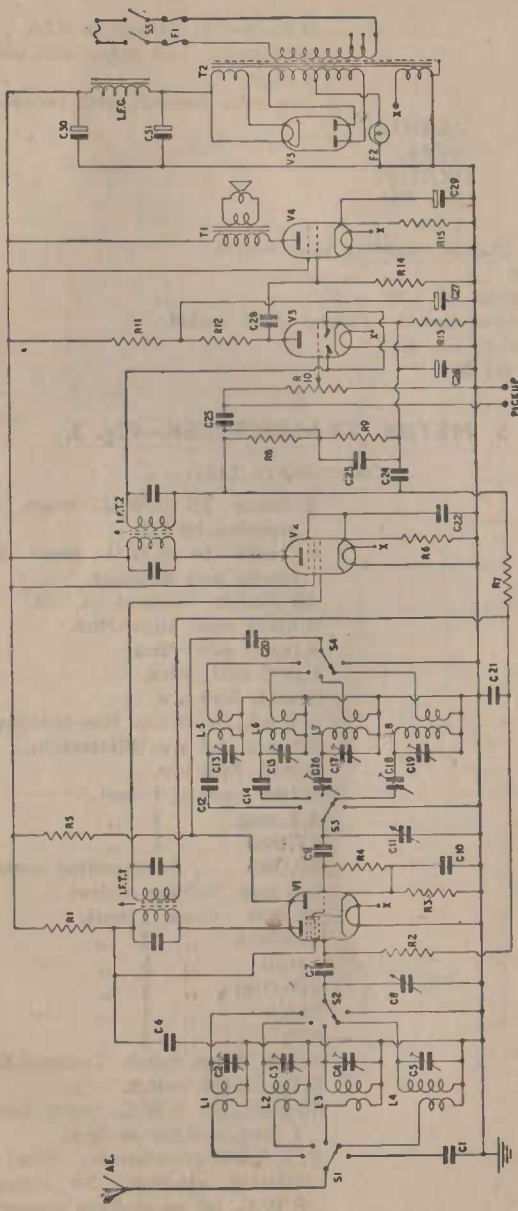

FIG. 2. A.C. Broadcast Superhet Receiver.
A.C. BROADCAST SUPERHET RECEIVER—Fig. 2.